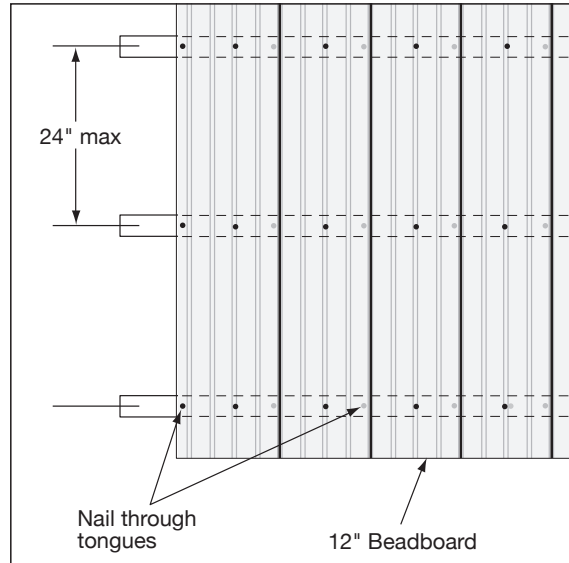

Fig. 48
- **12" wide Beadboard:** Should be fastened with 2 nails with one nail through the tongue and one face nail (**Fig. 48**)